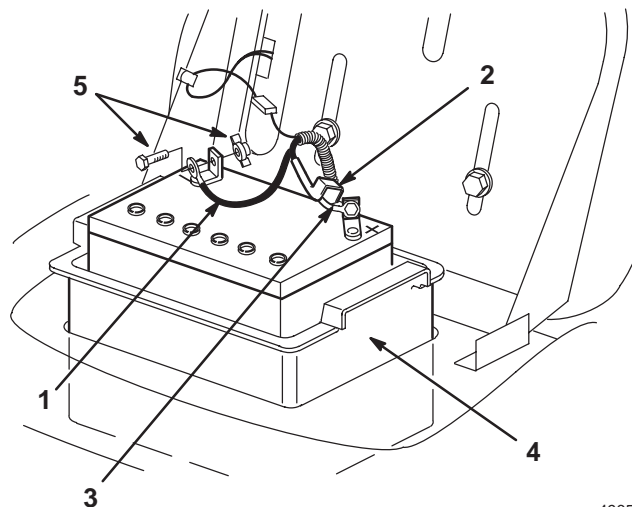

Figure 16
7. Disconnect the negative (black) ground cable from the battery post (Fig. 16).
9. Disconnect the positive (red) cable from the battery post (Fig. 16).
10. Remove the battery box and battery from the chassis (Fig. 16).
1. Put the battery into the battery box and install it into the chassis (Fig. 16).
2. Using the bolt and the wing nut, connect the positive (red) cable to the positive (+) battery post (Fig. 16).
4. Using the bolt and wing nut, connect the negative (black) cable to the negative (–) battery post (Fig. 16).